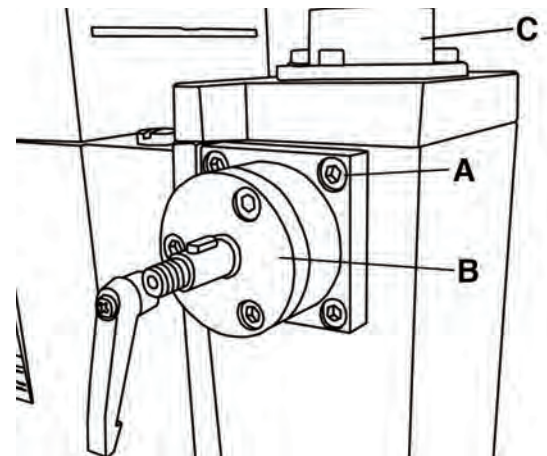
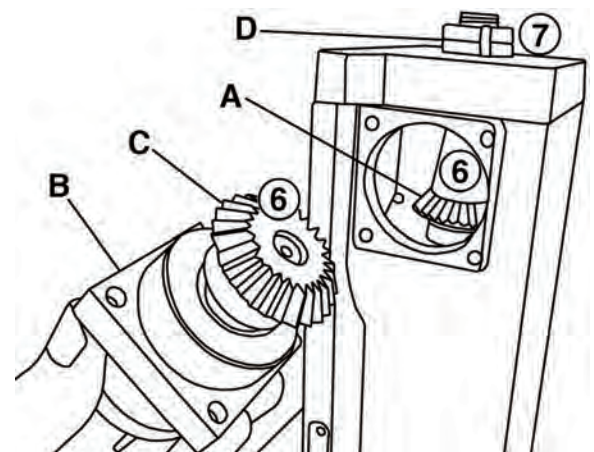

FIGURE 19
FIGURE 20
Lubrication point #6, refer to Fig.20- Vertical leadscrew ring and pinion gears. Remove the head raising/lowering handwheel by undoing the acorn nut and washer that secure it to the machine. Remove the four cap screws (A) Fig.19 that secure the pinion gear housing (B) Fig.19 & 20, then remove the pinion gear housing as shown in Fig.20.
Clean the ring gear (A) Fig.20 and pinion gear (C) using mineral spirits and a brush, then apply a generous amount of multi-purpose lithium grease. Reassemble in the reverse order.
Lubrication point #7- Vertical leadscrew bushing. Remove the leadscrew bushing cap (C) Fig.19. Apply light machine oil to the edge of the bushing (D) Fig.20.